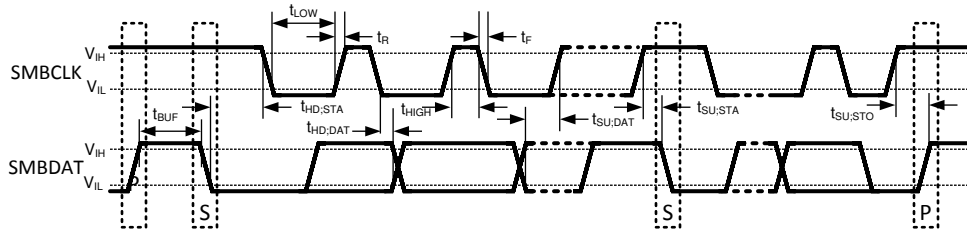

Figure 5-1. SMBus Communication
- (1) Absolute Maximum Ratings indicate limits beyond which damage to the device may occur. Operating Ratings indicate conditions for which the device is ensured to be functional, but do not ensure specific performance limits. For ensured specifications and test conditions, see the Electrical Characteristics. The ensured specifications apply only for the test condition listed. Some performance characteristics may degrade when the device is not operated under the listed test conditions. Operation of the device beyond the Maximum Operating Ratings is not recommended.
- (2) When the input voltage (V_I) at any pin exceeds the power supplies (V_I < GND or V_I > V_{DD}), the current at that pin should be limited to 5 mA. Parasitic components and or ESD protection circuitry are shown in Figure 5-1 and Table 5-1 for the LM95231's pins. Care should be taken not to forward bias the parasitic diode, D1, present on pins: D1+, D2+, D1-, D2-. Doing so by more than 50 mV may corrupt the temperature measurements.
- (3) Thermal resistance junction-to-ambient when attached to a printed circuit board with 1oz. foil and no airflow: